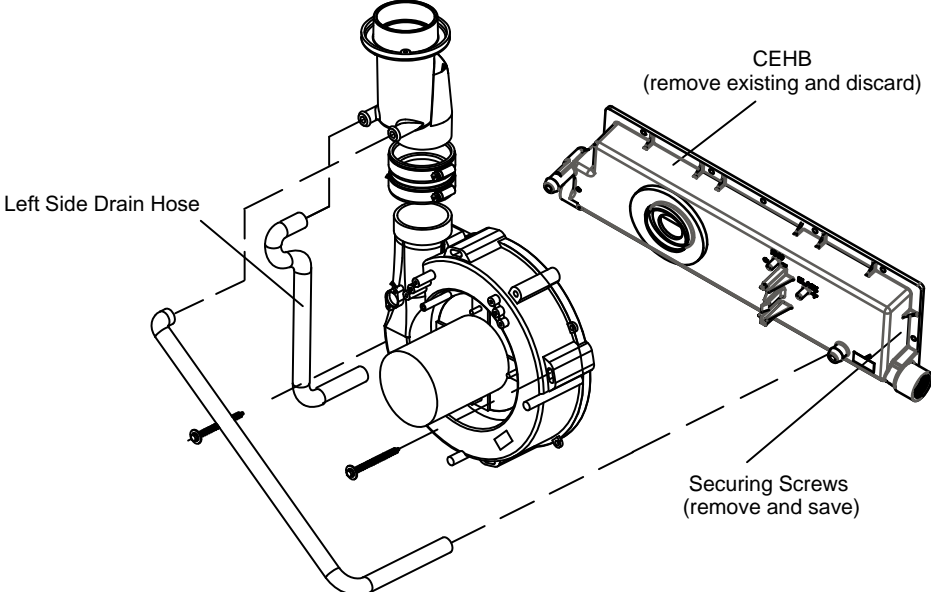

FIGURE 3
12. -Remove screws (set aside) which secure combustion air inducer to CEHB (figures 3 and 4). Remove combustion air inducer assembly and set aside.
Upflow/Horizontal Units - Install provided left side drain hose. See figure 3.